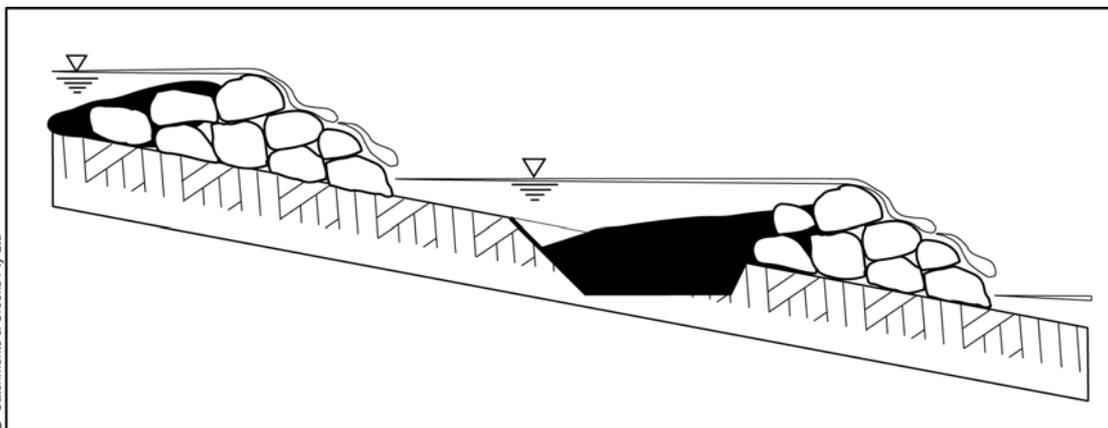

Figure 3 – Check dam sediment trap with optional sediment collection pit
- excavating a sediment collection pit up-slope of the dam (Figure 3); however, always check potential safety issues;